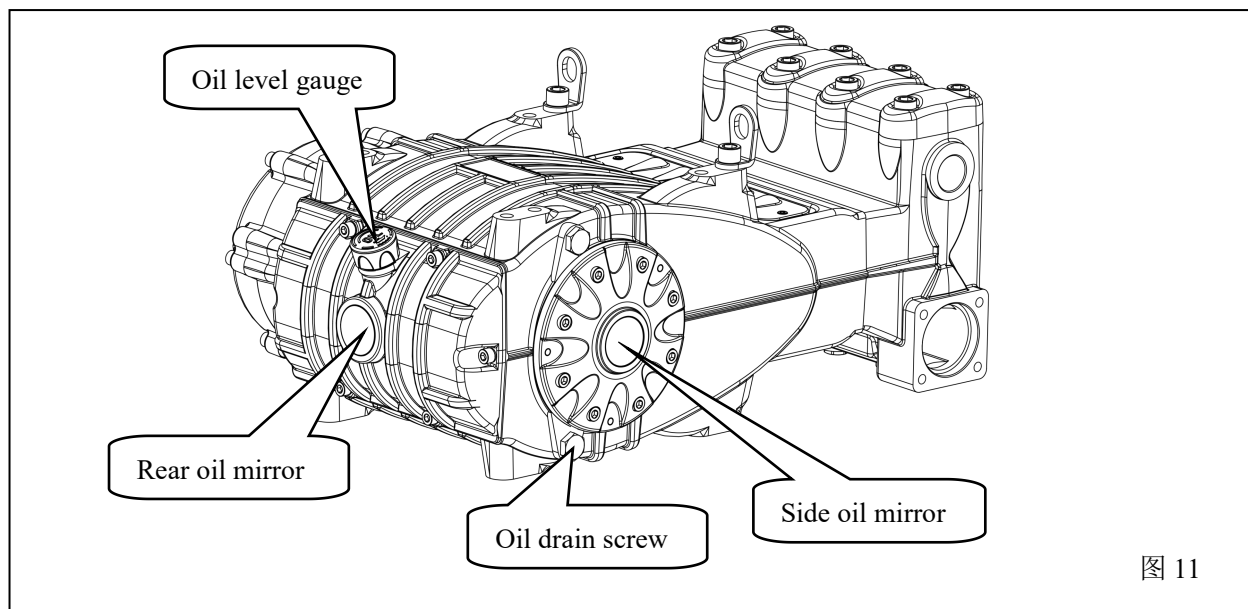

图 11
10.1.6 When the pump is in a horizontal position as shown in Figure 11, add oil until the oil reaches more than half of the oil level mark.